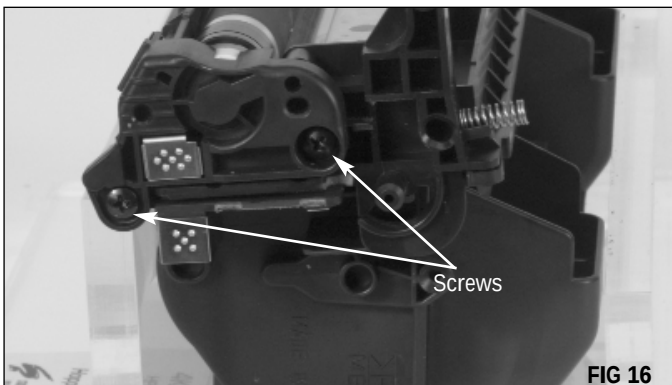

FIG 16
6. Remove the two screws that secure the end plate (FIG 16). Remove the mag roller end plate.